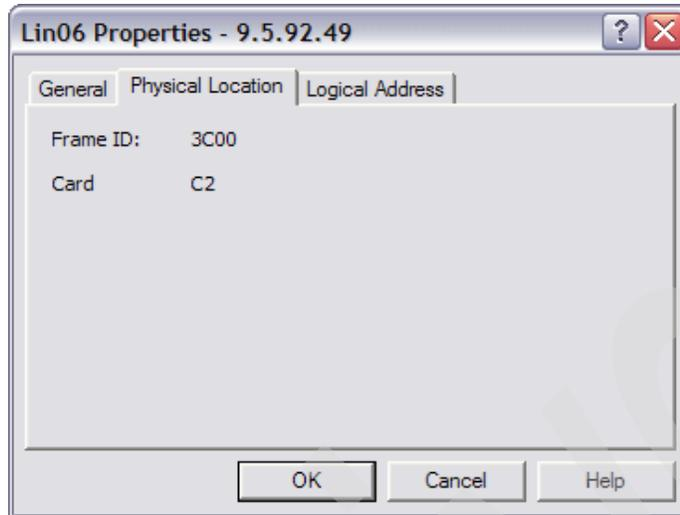

Figure 4-12 Verifying which adapter to configure
- If there are more than one adapter, right-click each **Network Host Adapter Resource** → **Properties** → **Physical Location** and note the Frame ID and Card to determine which adapter you will configure (Figure 4-12).